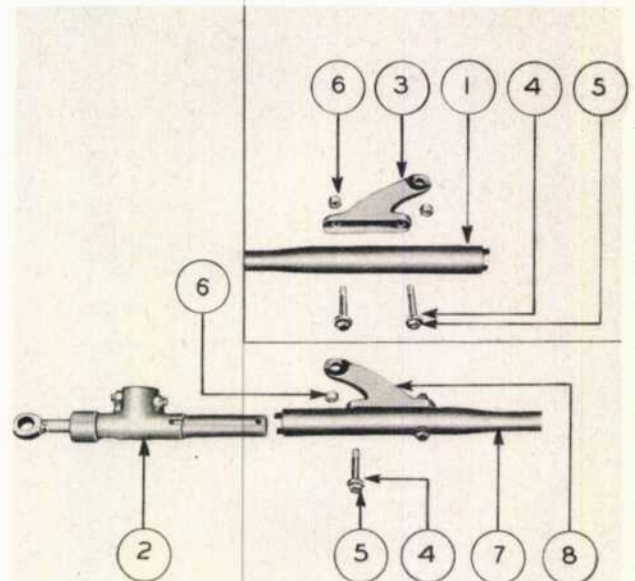

Figure 16—Removing Shock Unit Assemblies and Yoke Mounts From Bearers
e. To disassemble shock unit assembly (2, figure 16) from bearer assembly, remove nut (6), bolt (5) and yoke mount supporting block (4).
f. Disassemble left yoke mount (3, figure 16) from left bearer assembly (1) by removing nut (6), yoke mount supporting block (4) and bolt (5). Disassemble right yoke mount (8) from right bearer assembly (7) by removing nut (6), yoke mount supporting block (4) and bolt (5).
c. Reassemble left yoke mount (3, figure 16) in left bearer assembly (1) and right yoke mount (8) in right bearer assembly (7) by replacing supporting block (4), bolt (5) and nut (6).
d. Reassemble shock unit assembly (2, figure 16) to bearer assembly by replacing supporting block (4), bolt (5) and nut (6).